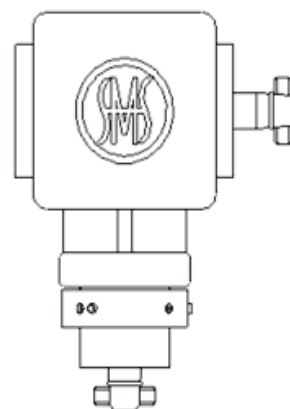

Figure 52 Place bushing
9.6.2.2 Place the bushing at the lower end of the bevel gear box and fix with 4 pieces of M6×10 set screws (90° equally divided). (Figure 52)